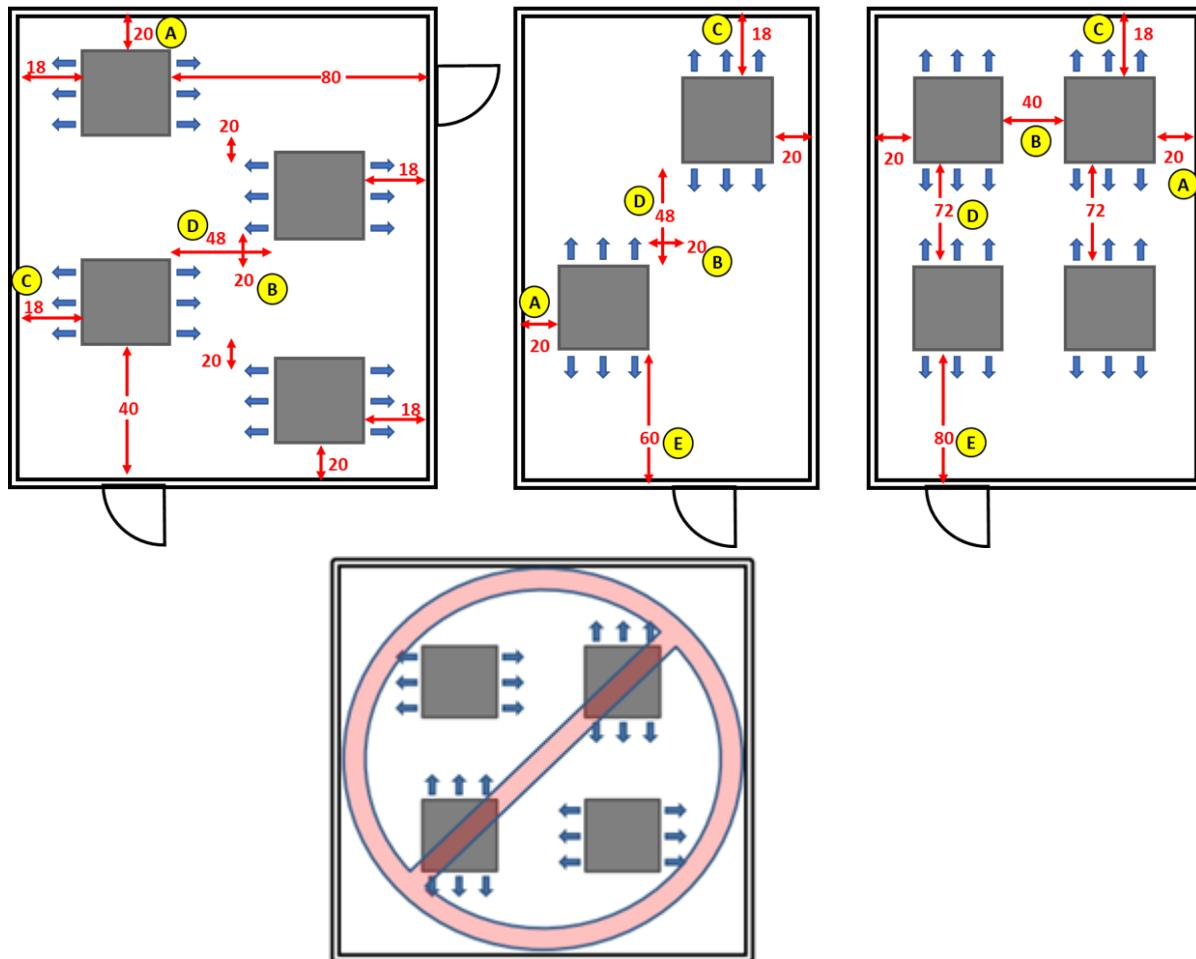

Figure 2 – Roof Top Air Flow View - cold side – Minimum Distances for Installation
- Standard distance between the evaporating unit side and the room walls or stored product is 20". See "A" in the figure 2;
- Standard distance between the evaporating unit side and the near evaporating unit side is 20" when staggered or 40" when in-line. See "B" in the figure 2.
- Minimum distance between evaporator air outlet side and room wall or stored product is 18". See "C" in Figure 2).
- Minimum distance between two units, when one evaporator air outlet side is in-line with the other, is 72" if the two units are staggered, this minimum distance is 48". See "D" in Figure 2.
- The minimum distance between the evaporator air outlets if blowing direct to the door is 80". If not blowing directly, it is 60". See "E" in Figure 2.
- See Figure 2 for the minimum distances recommended for staggered and in-line installations.
- Do not rotate the units. The hot air outlet from one unit will be blown to the inlet side of the other unit (same as shown above in Figure 2);